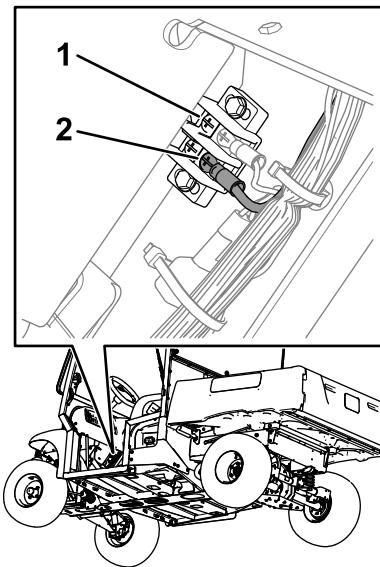

Figure 15
- A. Connect the ring terminal on the harness to the grounding block on the center dash support (Figure 15).